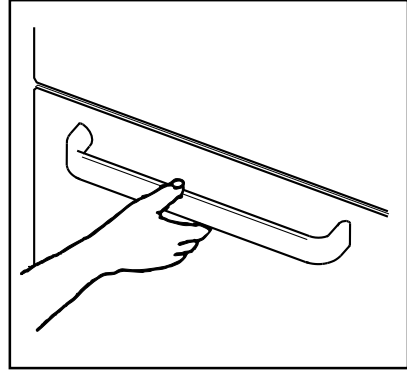

Fig.5
**!** To open the oven door, always hold the handle in the centre (Fig. 5).